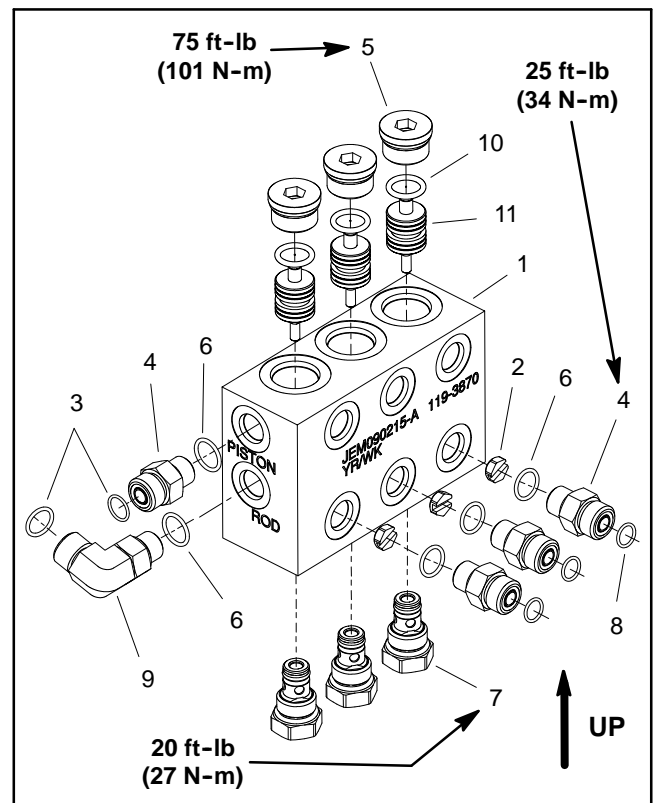

Figure 92
**IMPORTANT:** A flow control orifice is placed beneath several of the hydraulic fittings on the lift circuit junction manifold (Fig. 92). If a fitting is removed from the lift junction manifold and an orifice is in the manifold port, make sure to remove orifice and label its position for assembly purposes. Also note location of groove in orifice for assembly purposes.
6. If necessary, remove fittings from manifold and discard O-rings (Fig. 92).
1. If fittings were removed from junction manifold, lubricate and place new O-rings onto fittings. Install fittings into manifold openings making sure that orifice is correctly placed before threading fitting into manifold. Tighten fittings (see Hydraulic Fitting Installation in the General Information section of this chapter). Refer to Figure 92 for fitting installation torque.